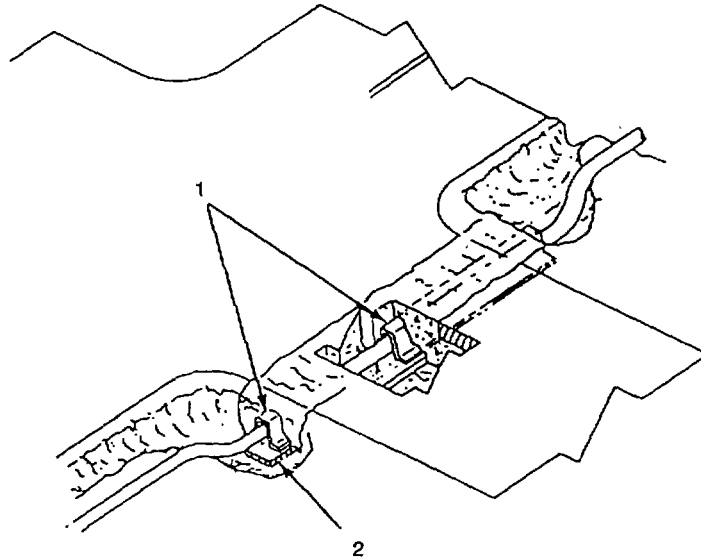

Figure 2-40. Disassemble Road Crossing Guard
- (1) Dig out road crossing guard (1, Figure 2-40).
- (2) If planks (2) were nailed to bottom of road crossing guards (1), remove nails. Remove planks and fill hole in ground.